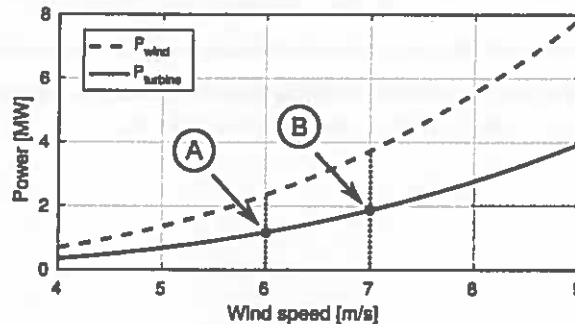

Figure Q1.1- Power yield and available power from a given wind turbine.
- a) The graph in Figure Q1.1 shows the power yield of a wind turbine compared against the available kinetic power in the airflow passing through the turbine for a range of wind speeds within the MPPT (maximum power point tracking) operating region. Relevant parameters about the wind turbine can be found in Table Q1.1.